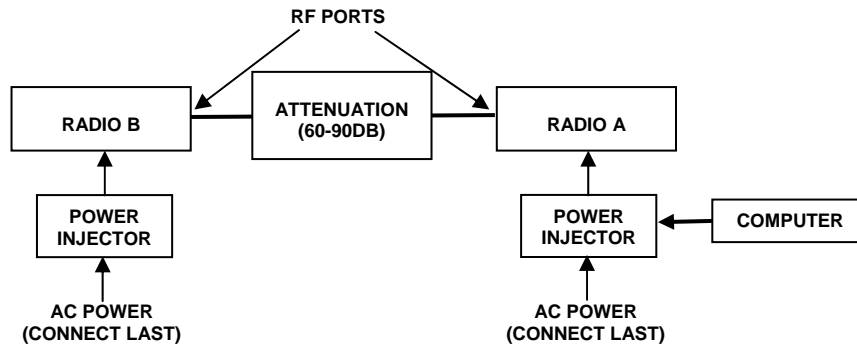

Figure 34 Basic back-to-back bench test configuration
1. Connect attenuation and (known-good) RF cable(s) between radio pair, shown in Figure 34.
Connect the system as shown in Figure 34, using the combination of fixed and variable attenuation between the radio's RF ports. Connect the volt meter to either radio's RSL test point and associated reference ground connection.